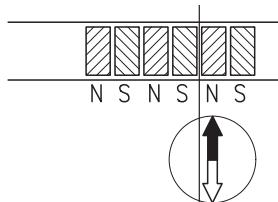

Fig. 13 : Determination of the pole position.
- If necessary, use a compass needle to determine the location of the poles on the magnetic strip (fig. 13).